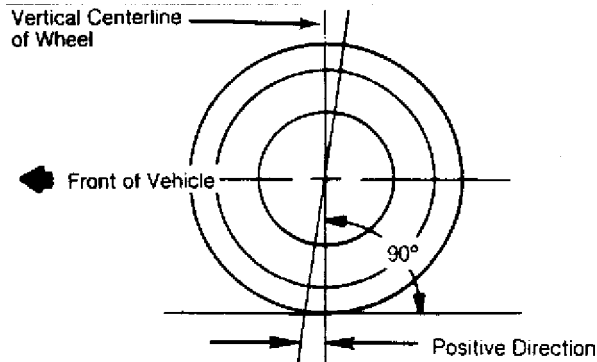

Fig. 4: Determining Caster Angle
1) Caster is tilting of front steering axis either forward or backward from vertical, as viewed from side of vehicle. See Fig. 4.